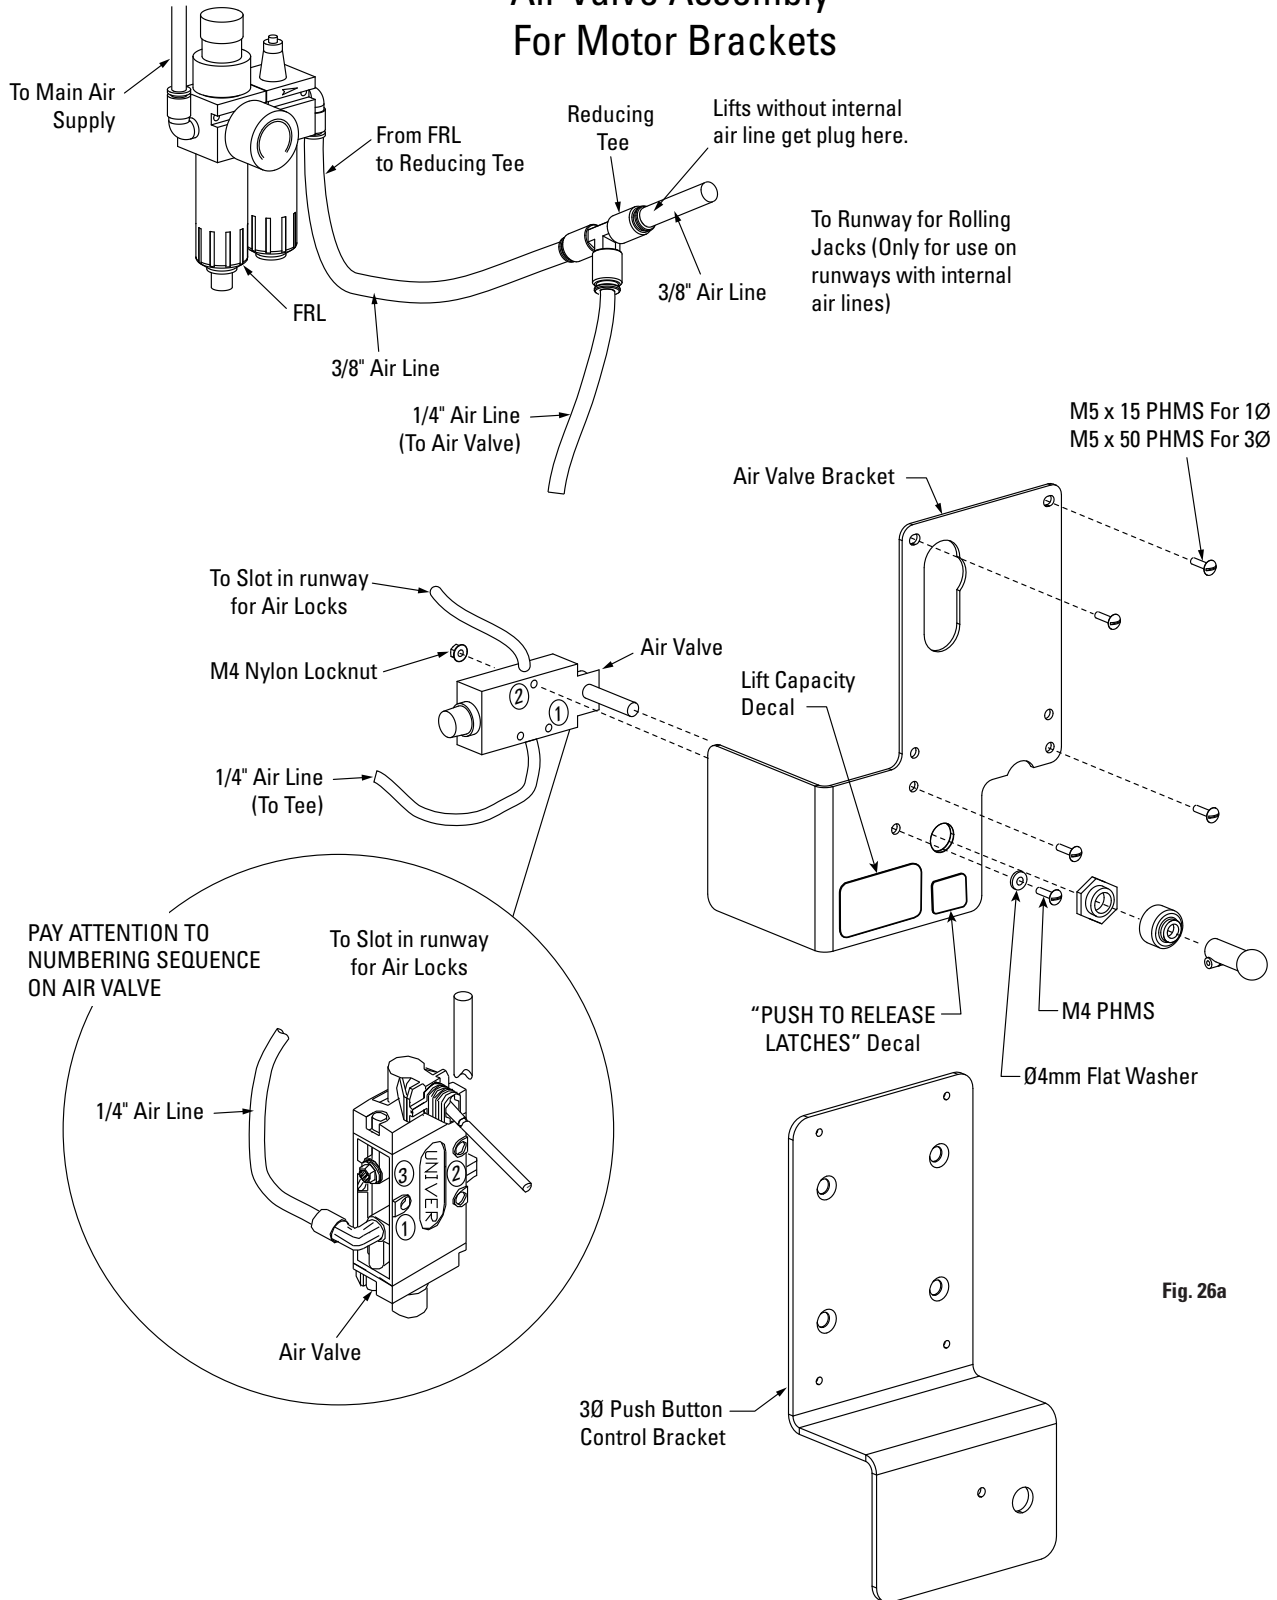

Fig. 26a
Remove motor warnings decal from motor cover. Remove motor cover screws. Place air valve bracket on top of motor cover so that the raise switch protrudes through the hole in the air valve bracket. Mount air valve bracket and motor cover with the existing single phase (4) M5 x 15 PHMS motor cover screws or supplied (4) M5 x 50 PHMS for three phase, Fig. 26a.